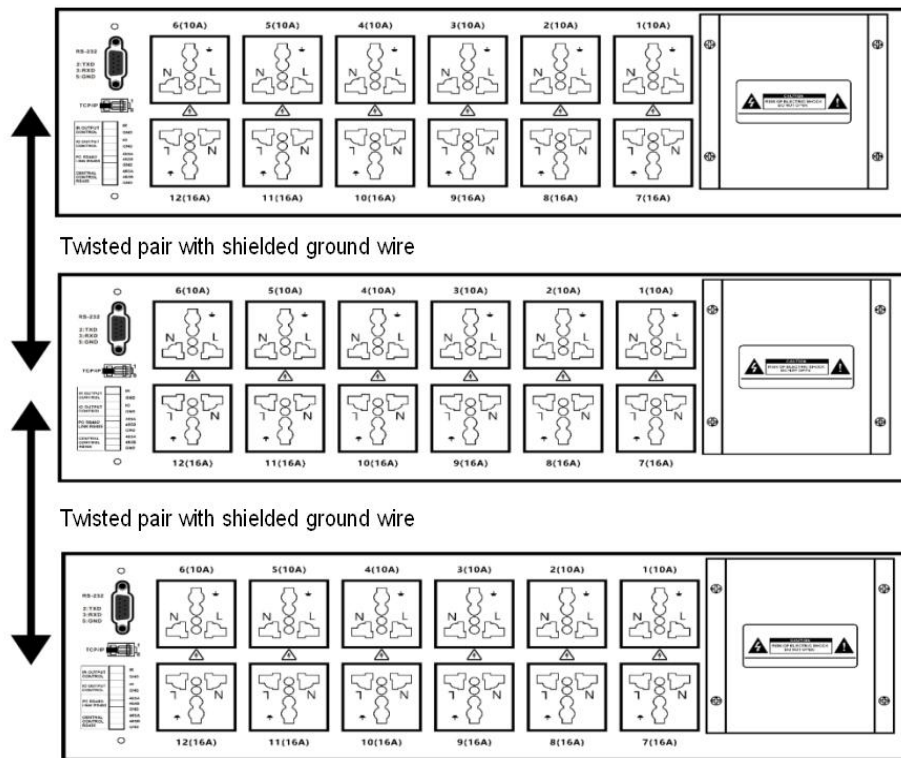

Figure 8
Step 2: Use twisted pair with shielded ground wire to connect device and device, the maximum distance can reach 600m, as shown in Figure 8.